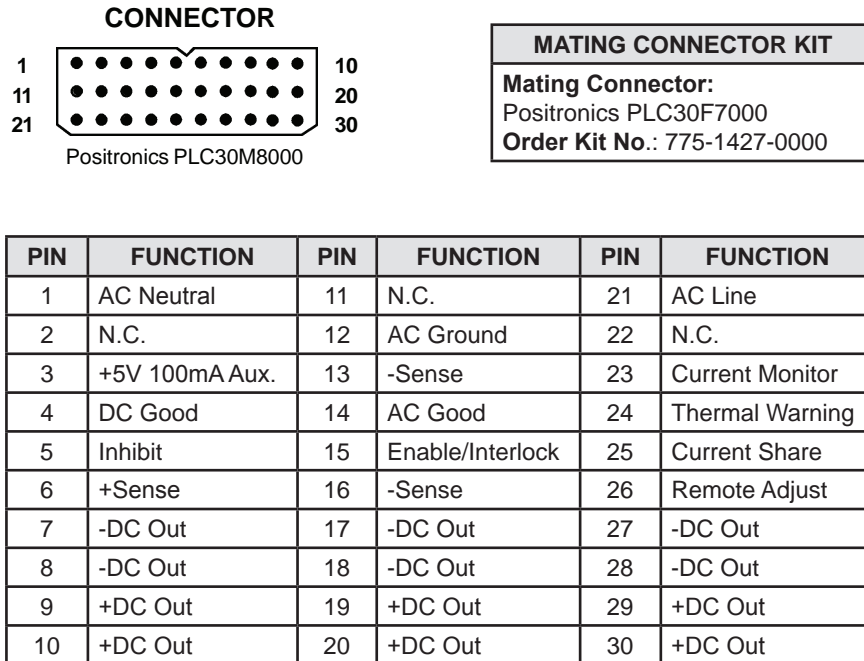

Figure 10. Module Pin Connections.
If the module or modules are used separately from the shelf or in a user-configured shelf, connections should be made to the hot-swap connector on the back of the module with the functions shown in Figure 10. The Enable/Interlock (pin 15) must be connected to -Sense (pin 13 or 16) for the module to operate.
20.9 Checking the Remote Adjust Input - Connect a variable external power supply as shown in Figure 10. With the output voltage set to zero, check the output voltage of the module with a digital voltmeter. It should be approximately 26.5V. Next, adjust the supply output to +5V and check the output voltage of the module. It should be approximately 33.5V. Unplug the external 5V supply and unplug the AC input to the shelf.